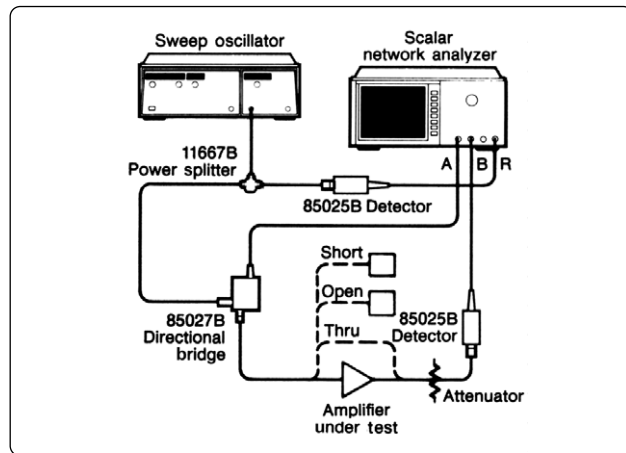

Figure 9. Test setup for simultaneous measurement of amplifier gain and input return loss.
The reflection measurement setup shown in Figure 9 could be used for simultaneous reflection and transmission measurements. The 8757A can be easily configured to display return loss on channel 1 and gain on channel 2. If the reflection measurement is made with a separate setup, ratioing may not be required, since the measurement is often only made at one power level. If reflection is tested at several power levels, then ratioing is recommended.
Reflection parameters can be measured with a directional bridge or with a directional coupler and another detector. The setup of Figure 9 describes the measurement with an 85027B Directional Bridge, but also applies to a directional coupler, such as the 11692D.
1. Connect the equipment as shown in Figure 9. Ratioing with the power splitter may not be required.